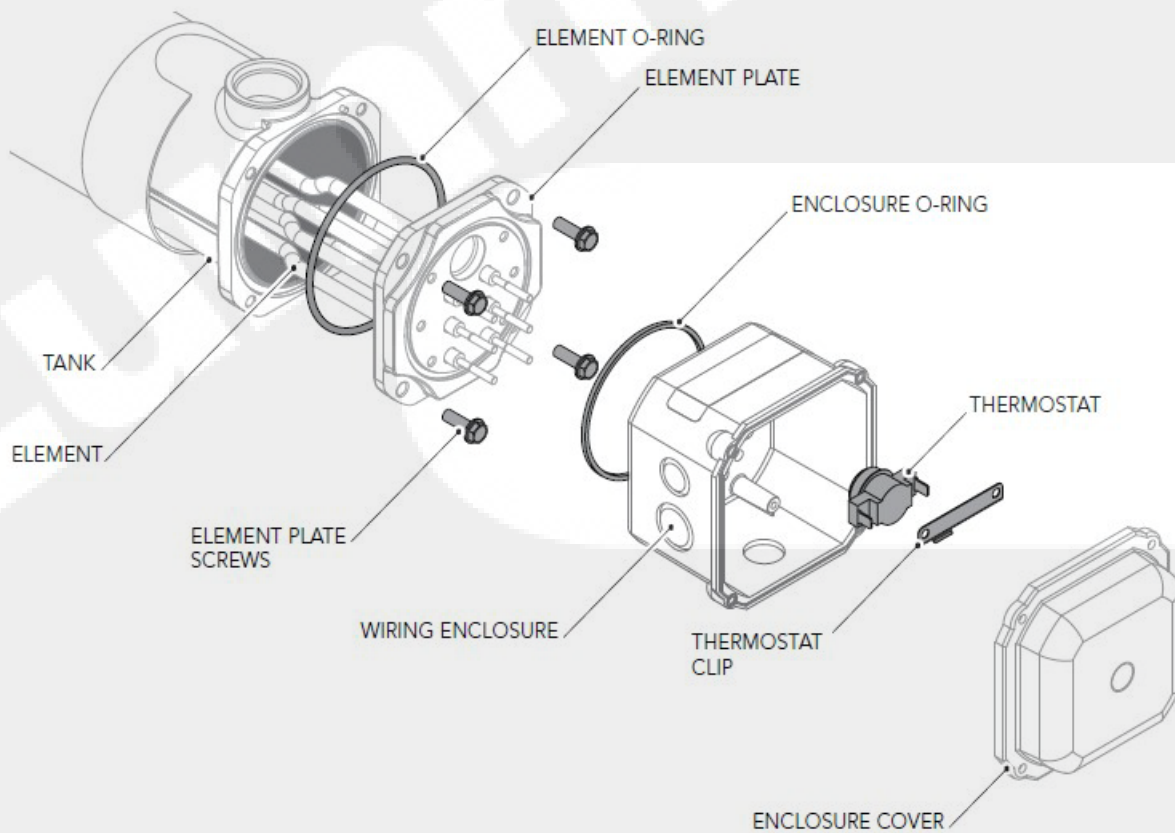

Figure 7-43 GenSet coolant heater components
6. As shown in Figure 7-43, clean the coolant heater heating element:
The coolant heater components are shown in Figure 7-43.